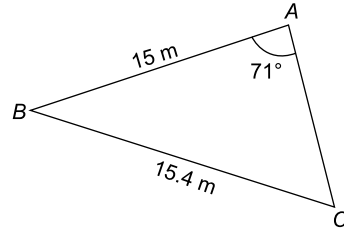

Figure RT1.4
- A triangular plot of land ABC is shown in Figure RT1.4. Solve the triangle and determine its area